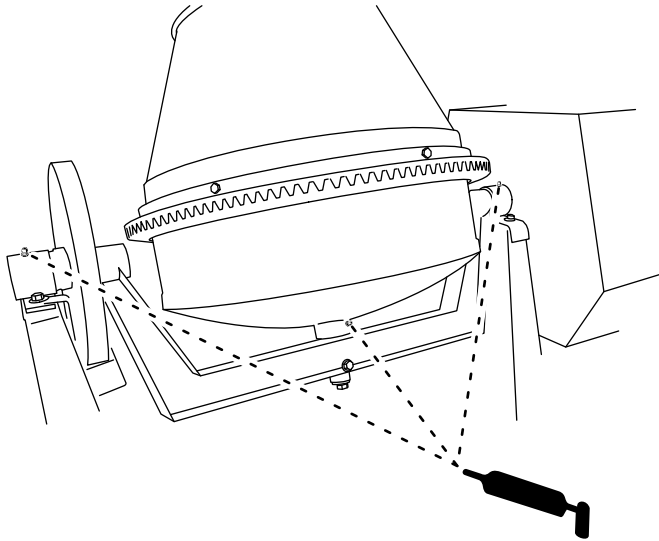

Figure 41
1. Clean around each grease fitting with a rag and lift the plastic cap off the grease fitting (Figure 41).
2. Use a grease gun to lubricate the grease fittings of both trunnions and the drum spindle with No. 2 lithium grease (Figure 41).